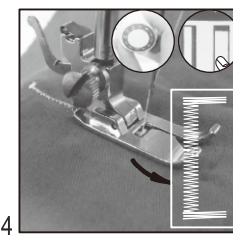

Fig.25
4. Raise the presser foot, turn the cloth head back(because cloth is sewed forward, if you want to sew buttonhole, you need to turn the direction of sewing.)(Fig.25).